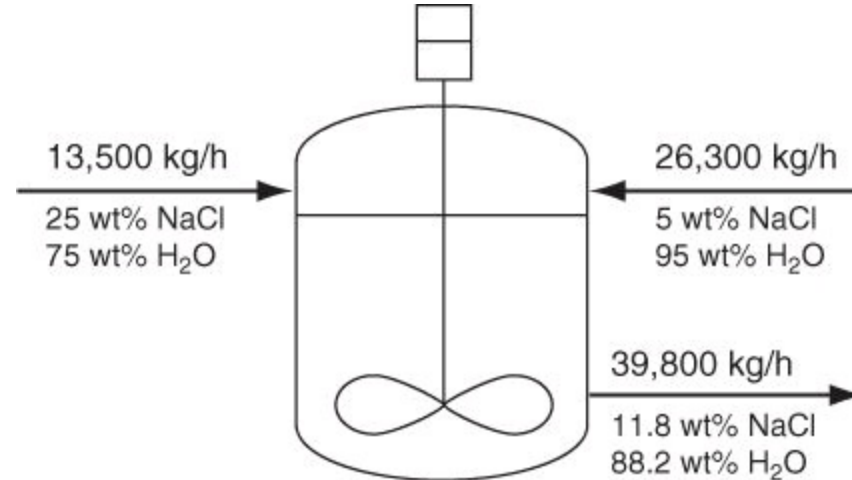

Figure P3.1.19
****3.1.19.** Mixers can be used to mix streams with different compositions to produce a product stream with an intermediate composition. Figure P3.1.19 shows a diagram of such a mixing